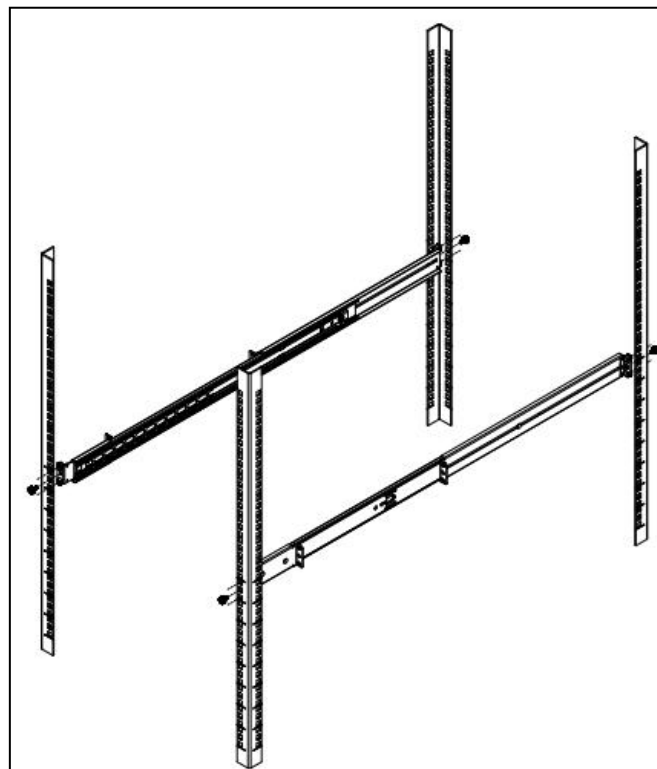
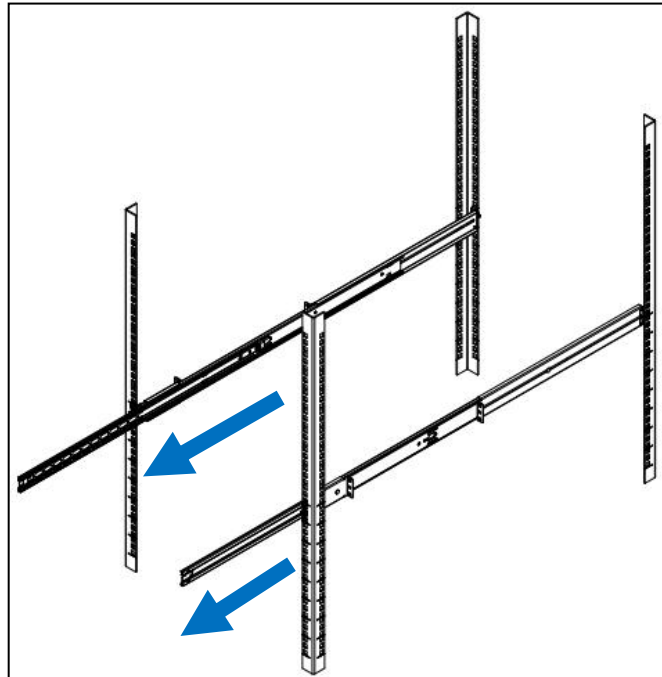

Figure 5.6
Figure 5.7
3. Fix the rails into the cabinet, and then pull out the middle rails. As shown in Figure 5.6 and Figure 5.7: